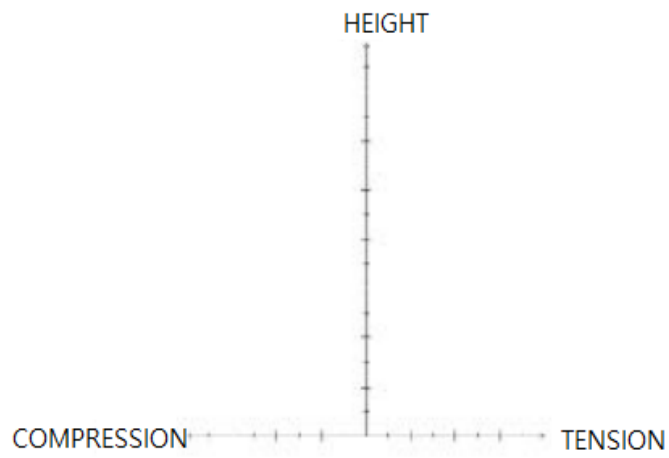

Figure 3 Template for part 7
7. Create graphs showing experimental **and** theoretical forces (tension **and** compression) for **both** the Eiffel Tower and Washington Monument models (**only for your group**). Use the x-axis for forces, and the y-axis for height (i.e., measured from the bottom). Use Figure 3 as a reference. For each model, connect each group's points with a parabola, resulting in 2 curves per model. Label axes and use labels or colors to distinguish curves. It is recommended you use Excel, Python, or MATLAB for this part. [10]